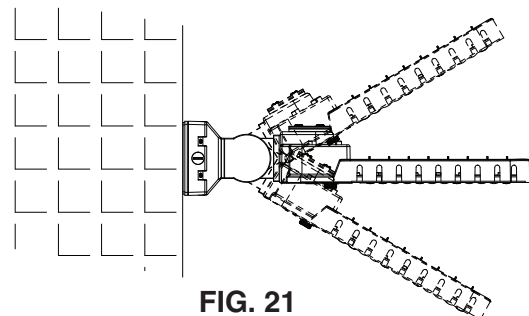

FIG. 21
7. Remove the mount cover plate and loosen the center bolt to adjust the mount to the desired angle (see **FIG. 21**).